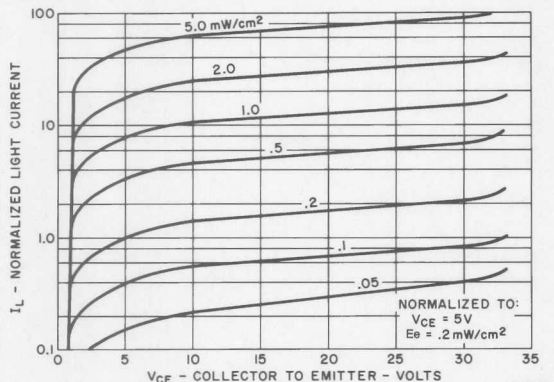
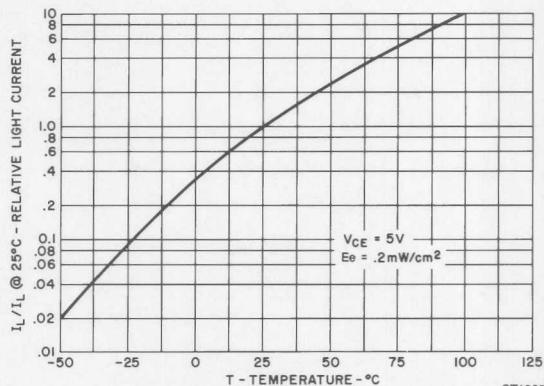

Fig. 1. Light Current vs. Collector to Emitter Voltage
Fig. 2. Relative Light Current vs. Ambient Temperature
- Figure 1 and figure 2 use light source of tungsten lamp at 2870°K color temperature. A GaAs source of 0.05 mW/cm^2 is approximately equivalent to a tungsten source, at 2870°K , of 0.2 mW/cm^2 .